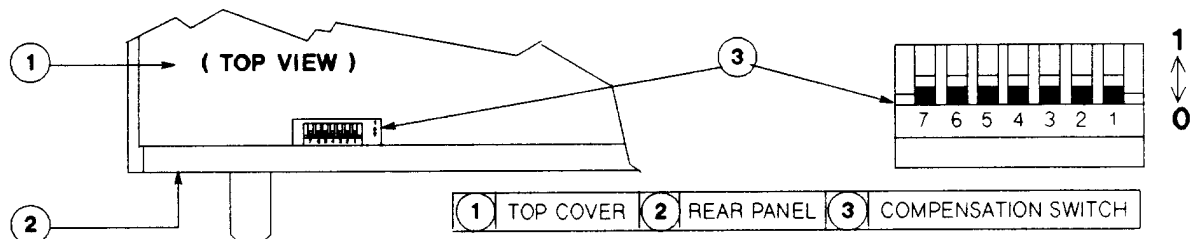

Figure E-2. CC Loop Compensation Switch
5. Locate the compensation switch (see Figure E-2).